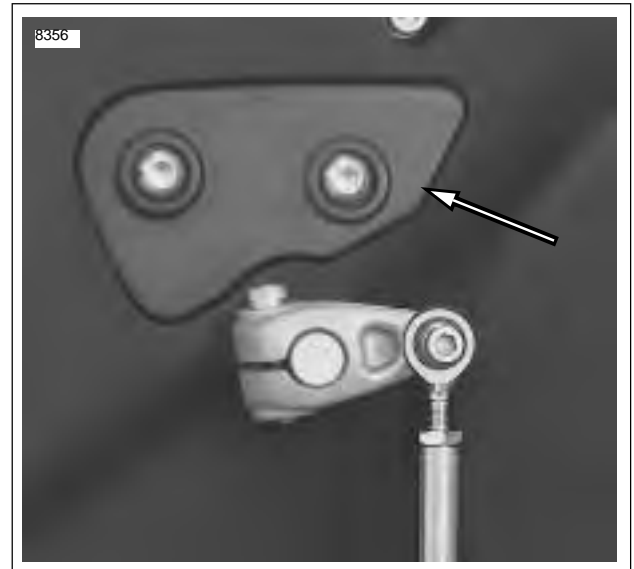

Figure 1-28. Primary Chain Inspection Cover
See Figure 1-28. Measure primary chain tension through the inspection cover opening. Adjust primary chains not meeting vertical free play specifications.
1. See Figure 1-28. Remove two fasteners with captive washers and primary chain inspection cover with gasket from primary cover.
4. See Figure 1-28. Install primary chain inspection cover and gasket to primary cover using two fasteners with captive washers. Tighten fasteners to 40-60 **in-lbs** (5-7 Nm).